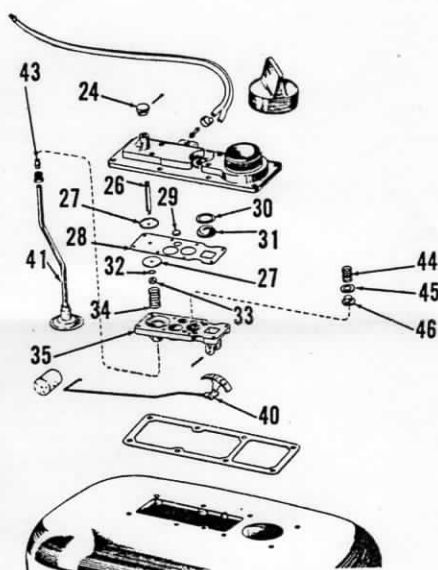
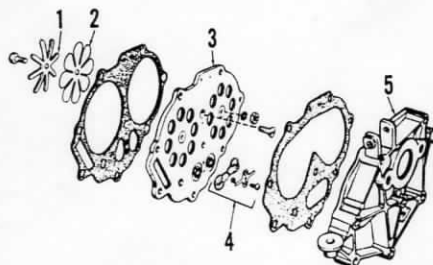

Fig. OM7-7—Exploded view of pressurized fuel tank assembly used on some models.
Fig. OM7-8—Exploded view of leaf (reed) valve assembly. Check valve (4) is used only on models with pressurized fuel tank Fig. OM7-7.
buretor. Check valves (4—Fig. OM7-8) are provided to prevent air pressure returning to the crankcase. A hand operated, diaphragm type fuel pump is used to provide starting fuel to the carburetor. Refer to Fig. OM7-7 for an exploded view of the pressurized fuel tank.
Overhaul of the fuel system consists of renewal of the damaged or worn parts, however the following items should be checked: The tank must maintain about 2 to 5 psi of air pressure to force fuel to the carburetor. Any leak in the air hose, fuel tank (around screws), tank cap or pressure relief valve (46) will release pressure. Also, failure of the check valves (4—Fig. OM7-8) will prevent fuel reaching carburetor.
REED VALVES. The reed type inlet valve unit (1 & 2—Fig. OM7-8) attaches to reed plate (3). The reed valves should be checked whenever the carburetor is removed for service. The reed petals should seat very lightly against reed plate throughout entire length of reed, with the least possible tension. Renew reed petals if broken, cracked, warped, rusted or bent. Do not attempt to bend or straighten reed petals. Seating surface of reed plate must be smooth and flat and reed petals must center over inlet holes in plate when assembled. The extensions on reed stop must be centered on reed petals.